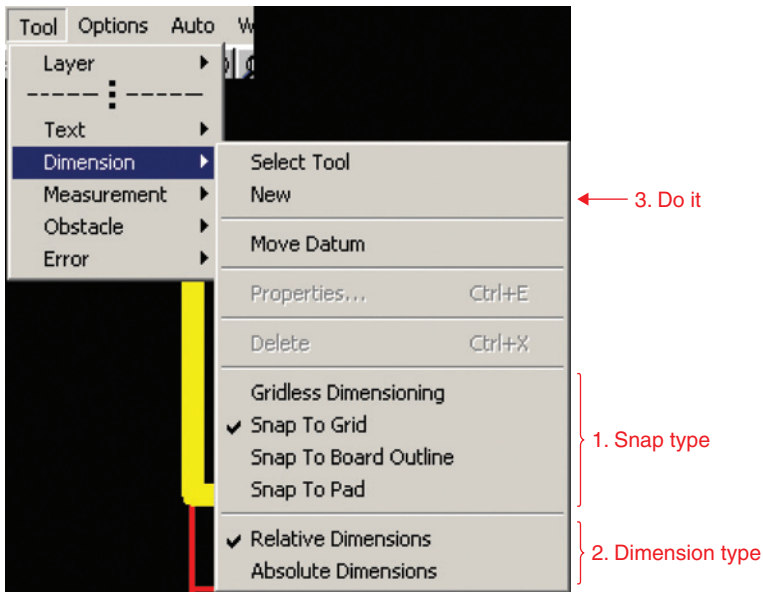

Figure 9-31 Setting up and placing dimension lines.
Adding dimensions and measurements is a three-step process. Each step is accomplished from the **Tools** → **Dimension** menu (see Fig. 9-31) and is used to (1) specify the snap settings, (2) specify the type of dimension, and finally (3) place the dimension.